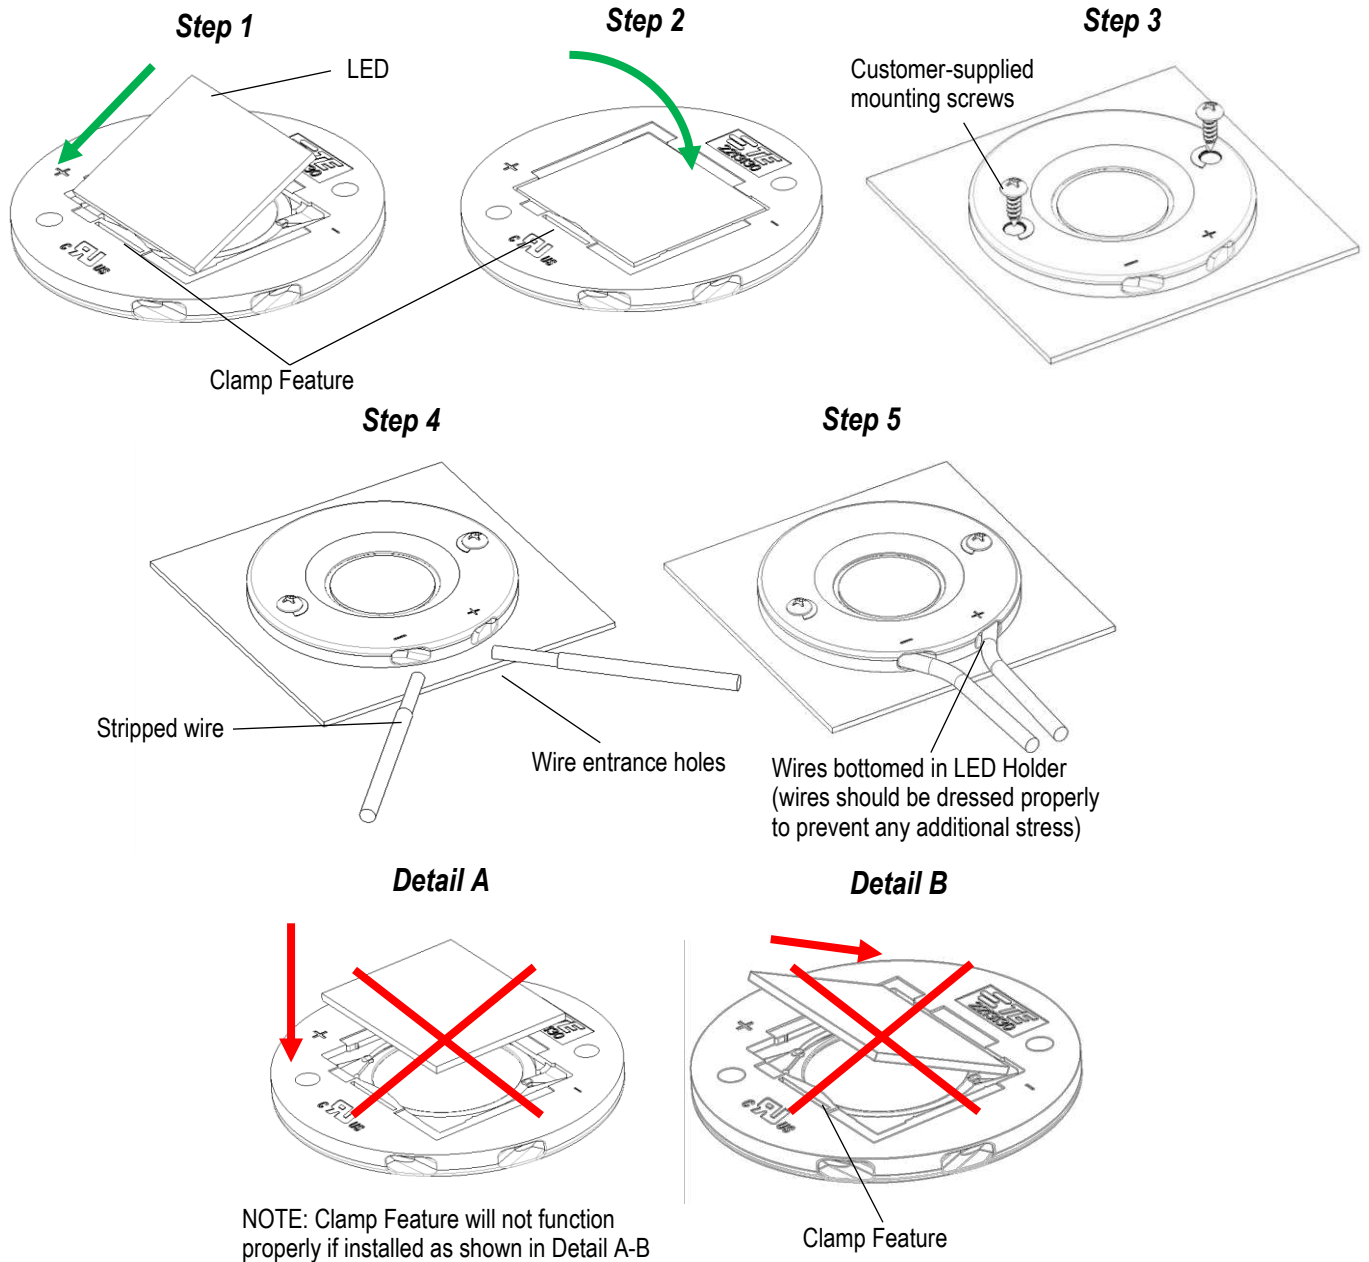

Figure 6
- Revised figure 6 to add views of assembly process for COB. Created word document from pdf.
1. The LED must be positioned in the LED opening from the bottom side of the LED holder so that one edge of the LED is against the clamp feature. The LED polarity indicators must be observed when orienting the LED into the LED opening. Then, the LED must be inserted until the clamp feature holds it in place. See Figure 6, Steps 1-5 (Green arrows represent the proper method). Do not place the LED directly into the holder without first putting the edge against clamp feature. Improper assembly shown in Figure 6, Detail A and B (Red arrows).
3. The stripped end of each wire must be inserted into a wire entrance hole of the LED holder until it bottoms in the LED holder. See Figure 6, Details G and H.
4. The LED holder (bottom side) must be placed on the cooling device so that the screws holes align over the holes in the cooling device. The LED holder must be secured to the cooling device using two customer-supplied mounting screws meeting the requirement described in Paragraph 3.4. Each mounting screw should be tightened to a torque between 0.4 and 0.6 Nm [3.54 and 5.31 in.-lb]. See Figure 6, Detail F.